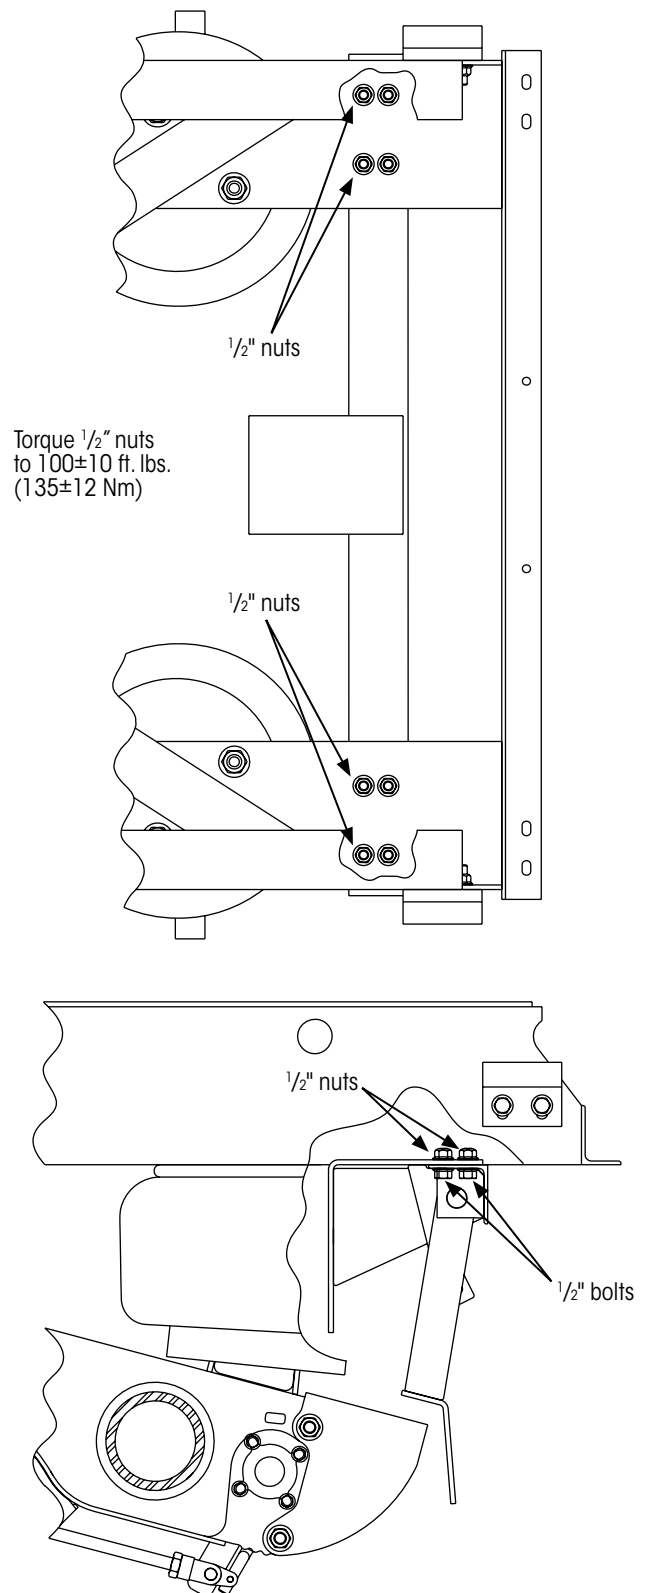

Figure 29: Arm assembly attaching details
1. Bolt SURELOK support arm assembly to the underside of the slider box with eight 1/2-inch nuts and bolts provided in the installation kit (Figure 29). Install the bolts so hex heads are on the SURELOK mounting bracket and the nuts are on the slider box flange as shown.